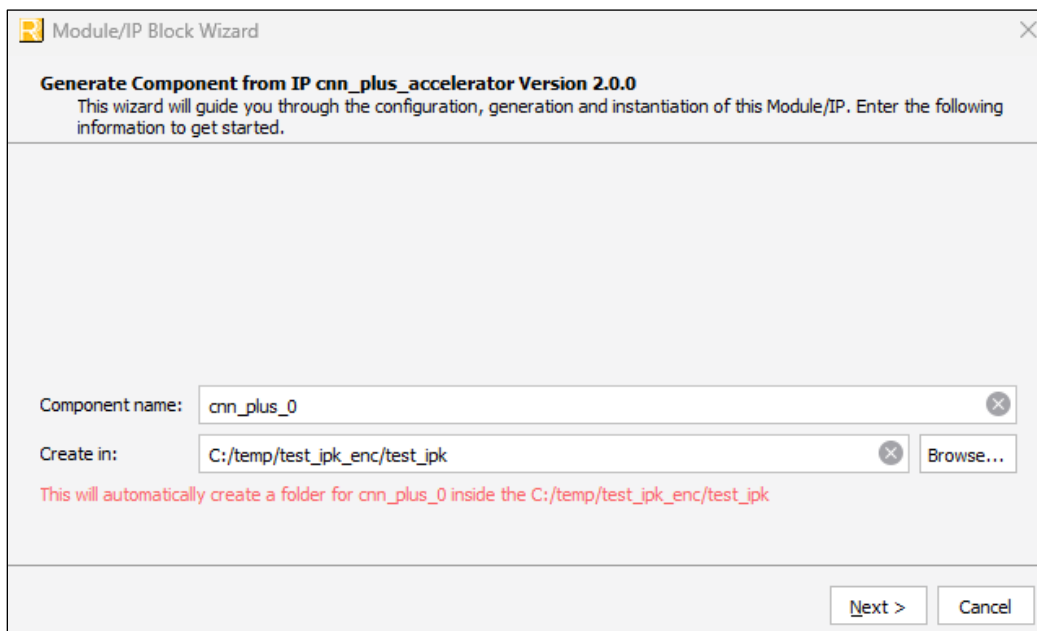
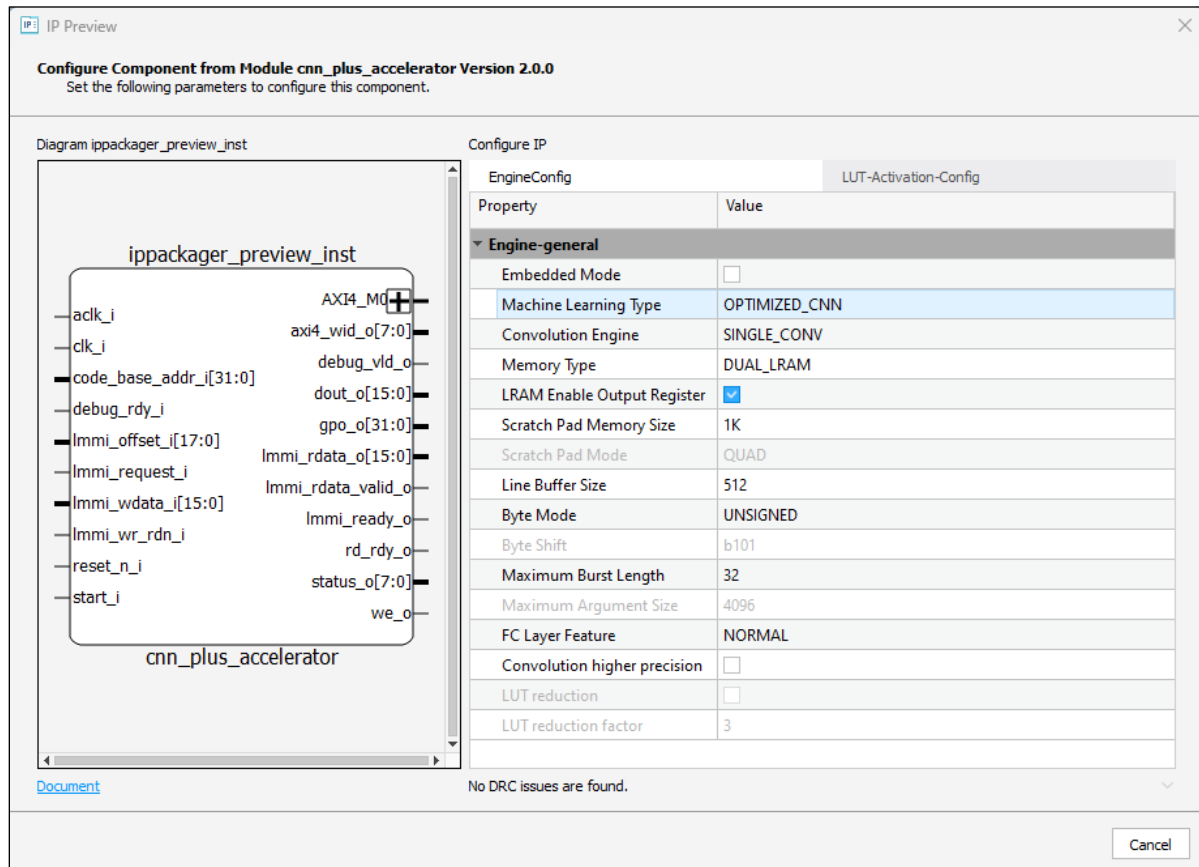
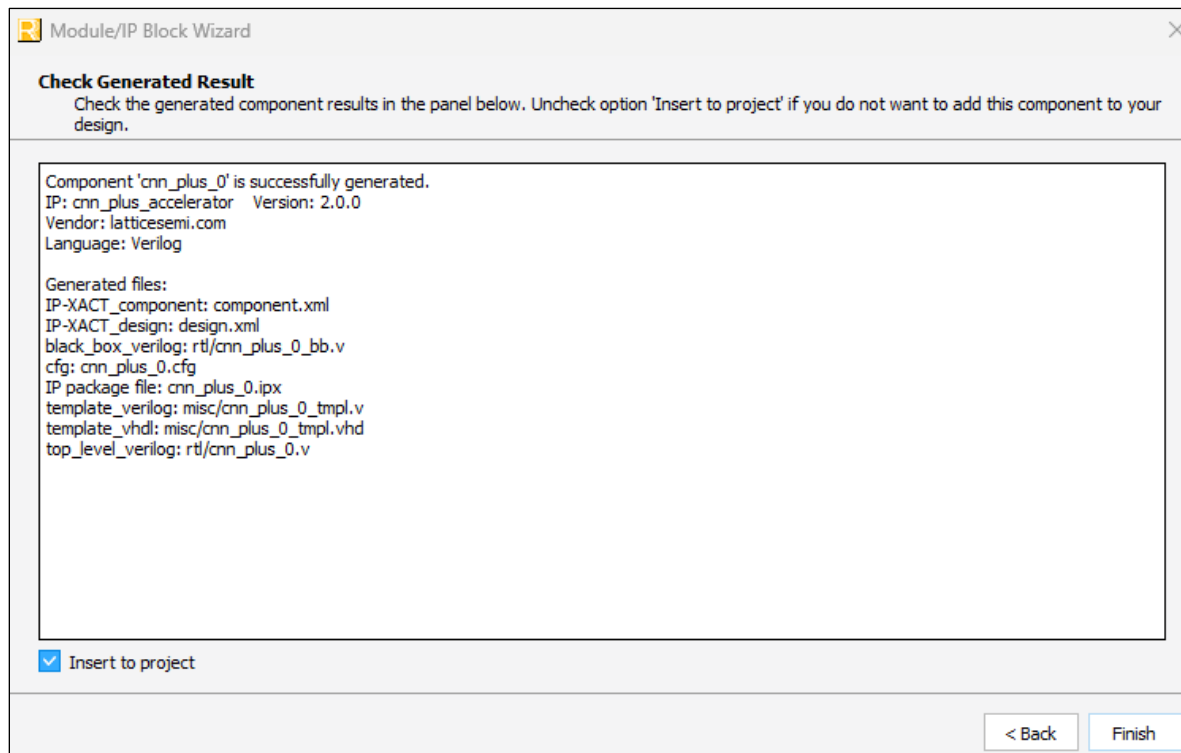

Figure 3.1. Module/IP Block Wizard
Figure 3.2. Configure User Interface of CNN Plus Accelerator IP Core
Figure 3.3. Check Generating Result
2. In the **IP Catalog** tab, double-click on **CNN_Plus_Accelerator** under **IP, DSP** category. The **Module/IP Block Wizard** opens as shown in Figure 3.1. Enter values in the **Component name** and the **Create in** fields and click **Next**.
3. In the module's dialog box of the **Module/IP Block Wizard** window, customize the selected CNN Plus Accelerator IP Core using drop-down menus and check boxes. As a sample configuration, see Figure 3.2. For configuration options, see the Attribute Summary section.
- Click **Generate**. The **Check Generating Result** dialog box opens, showing design block messages and results as shown in Figure 3.3.
- Click the **Finish** button. All the generated files are placed under the directory paths in the **Create in** and the **Component name** fields shown in Figure 3.1.
Core Generation, Simulation, and Validation	Updated Figure 3.1 , Figure 3.2 , and Figure 3.3 .
Core Generation Simulation and Validation	Updated Figure 3.1, Figure 3.2, and Figure 3.3.